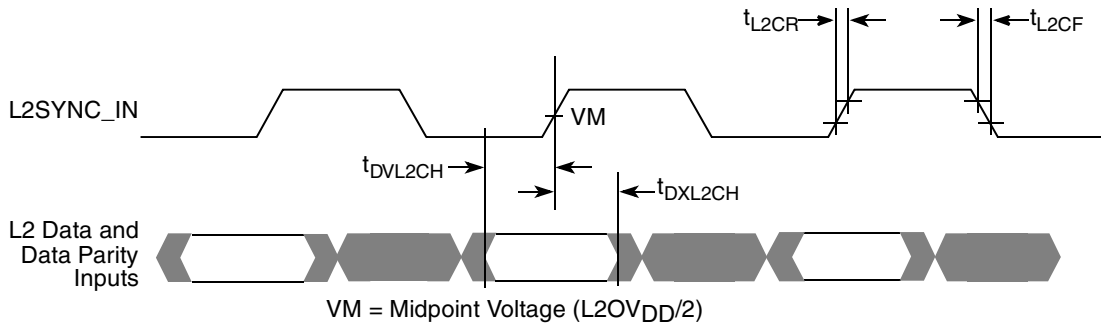
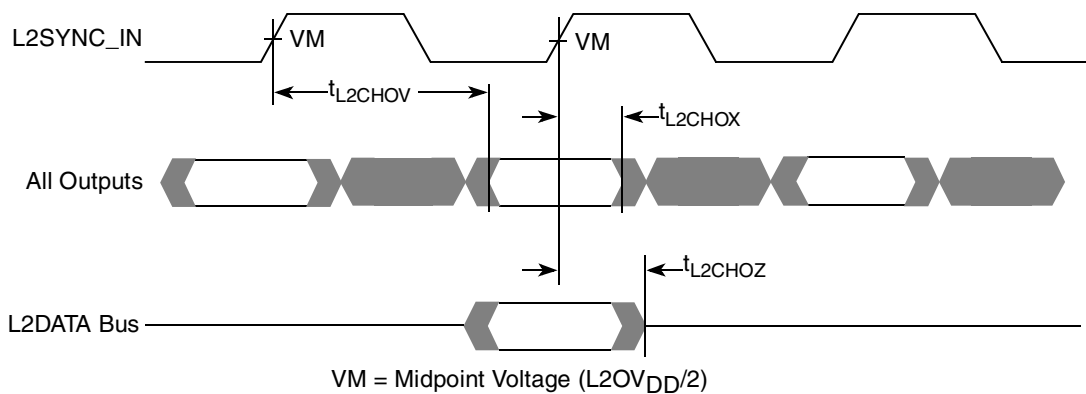
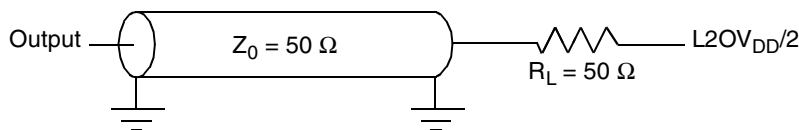

Figure 8. L2 Bus Input Timing Diagrams
Figure 9. L2 Bus Output Timing Diagrams
Figure 10. AC Test Load for the L2 Interface
Table 10 provides the L2 bus interface AC timing specifications for the MPC7410 as defined in Figure 8 and Figure 9 for the loading conditions described in Figure 10.
2. All input specifications are measured from the midpoint of the signal in question to the midpoint voltage of the rising edge of the input L2SYNC_IN (see Figure 8). Input timings are measured at the pins.
3. All output specifications are measured from the midpoint voltage of the rising edge of L2SYNC_IN to the midpoint of the signal in question. The output timings are measured at the pins. All output timings assume a purely resistive 50-Ω load (see Figure 10).
Figure 8 shows the L2 bus input timing diagrams for the MPC7410.
Figure 9 shows the L2 bus output timing diagrams for the MPC7410.
Figure 10 provides the AC test load for L2 interface of the MPC7410.